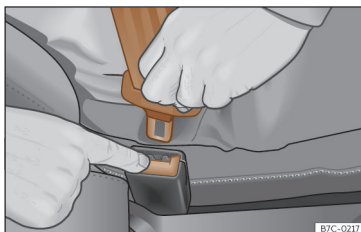

Fig. 24 Release the seat belt's latch plate.
- Press the red button on the buckle >>> **Fig. 24**. The latch plate is released from the buckle.